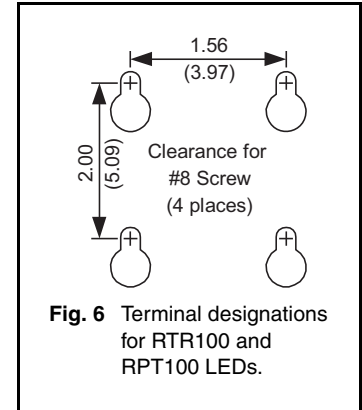

Fig. 6 Terminal designations for RTR100 and RPT100 LEDs.
- -DIN—Provides a mounting base and terminal housing that may be mounted on either a 35-mm DIN rail or screws (not included) (see Figure 6).